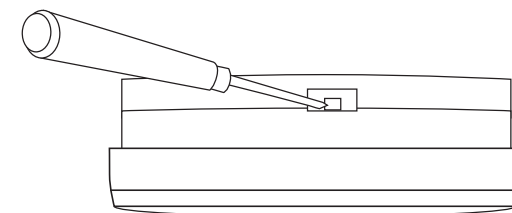

Figure 4. Press the catch upwards and simultaneously pull the smoke alarm sideways to release it from the mounting plate
- Use a screwdriver to release the smoke alarm from the mounting plate with connection terminal. See figure 4